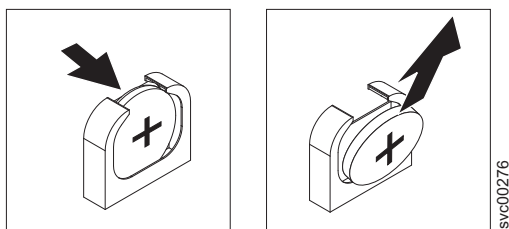

Figure 185. SAN Volume Controller 2145-DH8 CMOS battery holder
- b. Use your thumb and index finger to lift the battery from the socket, as shown in Figure 185.